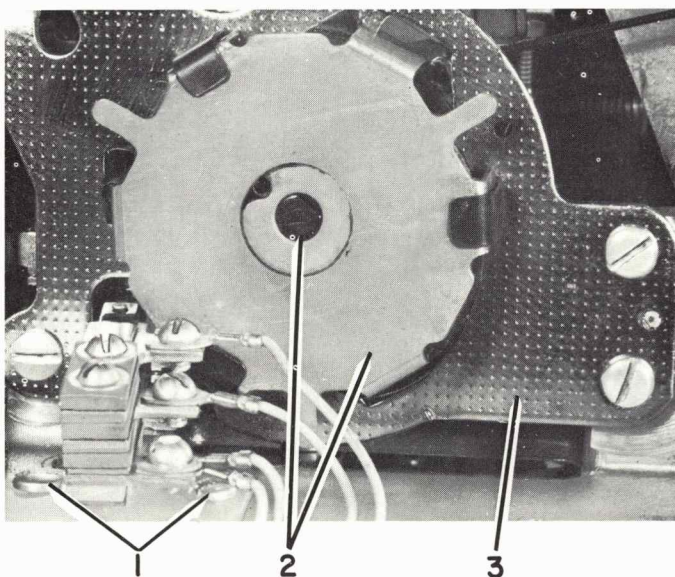

FIGURE 45. Operational Latch Bracket Removal
1. Remove the feedback-contact-assembly bracket by loosening the two screws (#1, Figure 45).
2. Remove the mainspring and hub (#2, Figure 45).
4. Remove the back plate (#3, Figure 45).